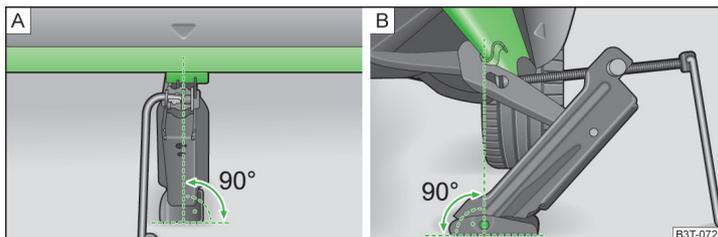

Fig. 143 **Attach lifting jack**
- Offer the jack up so that its claw encloses the web » Fig. 143 - **i**.
- Support the base plate of the jack with its full area resting on level ground and ensure that the jack is located in a vertical position at the point where the claw encloses the web » Fig. 143 - A.